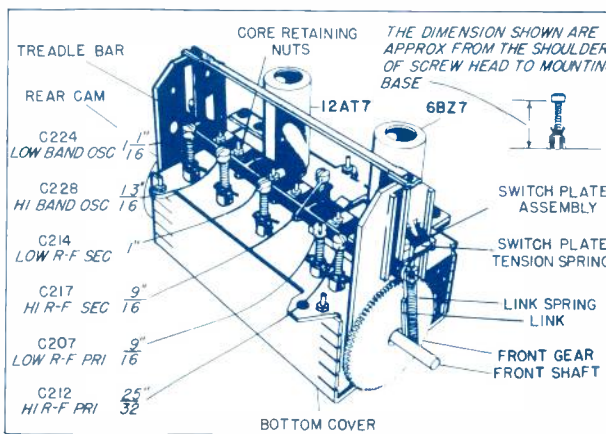

Figure 3. Top VHF Tuner View
1. Preset trimmer screws C-212-217-207-214-228-224 to dimensions shown, Figure 3.